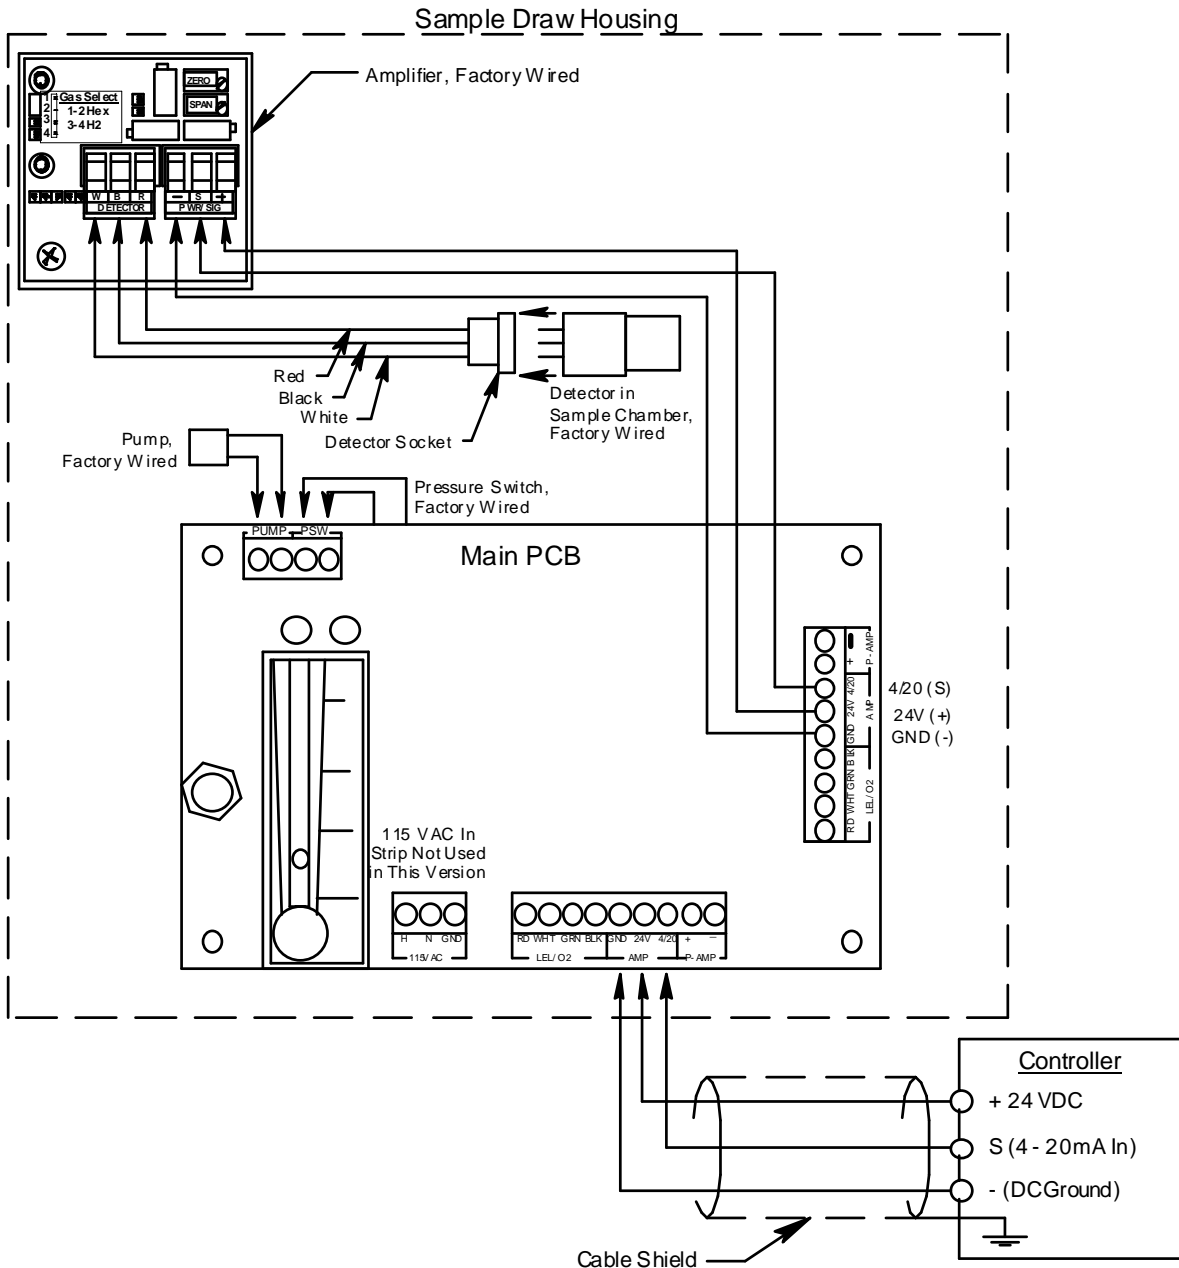

Figure 4: Internal and Field Wiring Diagram
5. Connect the cable or wires in conduit to the sample draw detector’s interconnect terminal strip as shown in Figure 4.